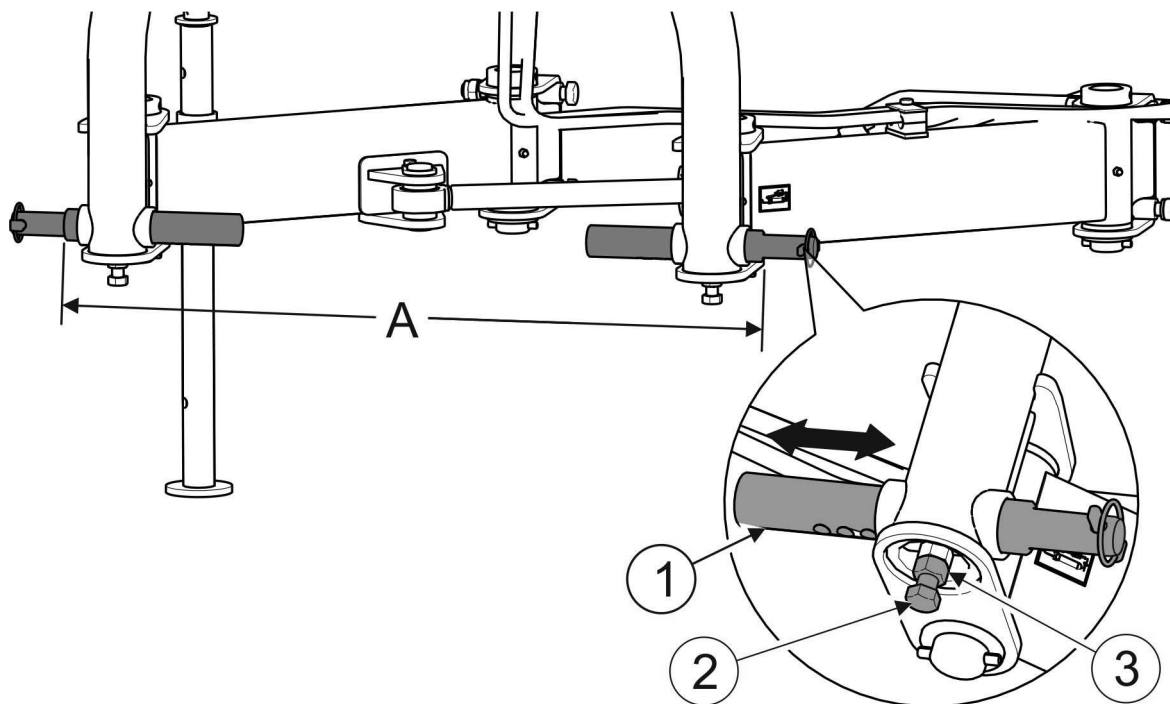

FIG. 4.4 Adjustment of mower lower linkage pins.
Lower pins (1) of the mower linkage enable spacing adjustment (FIG. 4.4). To change spacing of linkage pin spacing:
- loosen counter nut (3),
- unscrew setting bolt (2),
- move pin (1) to the right or the left to obtain the required spacing,
- block pin position with setting bolt (2) and counter nut (3).